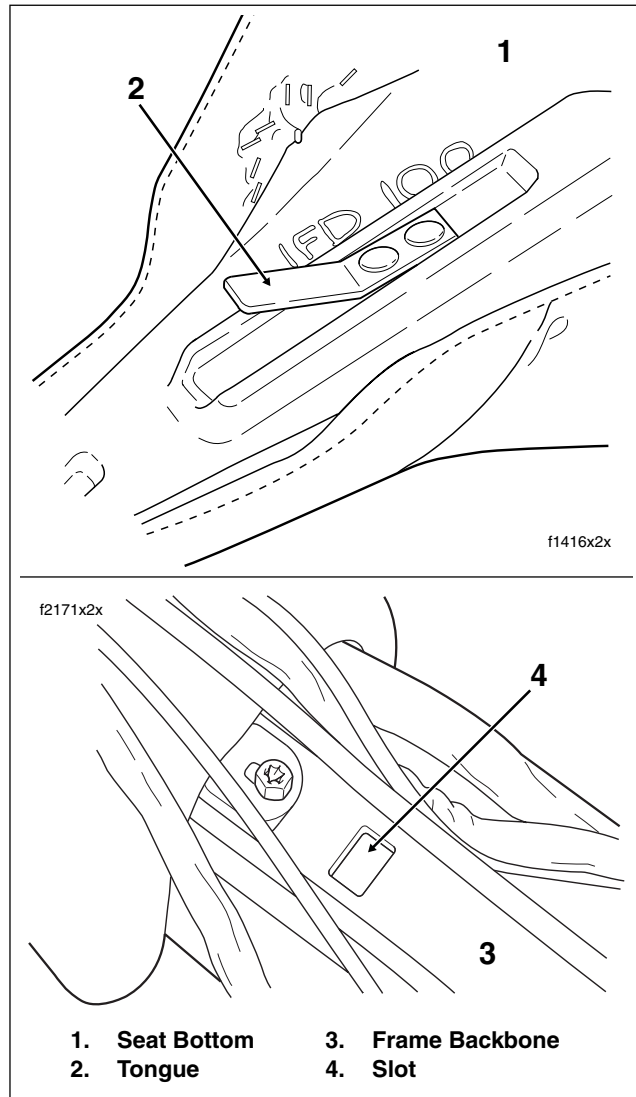

Figure 2-130. Seat Mounting
3. Push front seat rearward to free tongue from slot in frame backbone. See Figure 2-130.
2. Firmly push front of seat downward and rearward until tongue engages slot in frame backbone. See Figure 2-130. Push seat forward until studs are centered in slots of mounting bracket.
- Push seat rearward to free tongue at front of seat from slot in frame backbone. See Figure 2-130.
- Firmly push front of seat downward and rearward until tongue engages slot in frame backbone. See Figure 2-130.
4. Push seat rearward to free tongue at front of seat from slot in frame backbone. See Figure 2-130.
2. Firmly push front of seat downward and rearward until tongue engages slot in frame backbone. See Figure 2-130.
5. Push seat rearward to free tongue at front of seat from slot in frame backbone. See Figure 2-130.
7. While pushing seat forward, raise rear of seat until bracket clears top of Tour-Pak. Push seat rearward slightly to free tongue at front of seat from slot in frame backbone. See Figure 2-130.
3. While raising rear of seat approximately 3 inches (76.2 mm), use other hand to firmly push front of seat downward and rearward until tongue engages slot in frame backbone. See Figure 2-130.